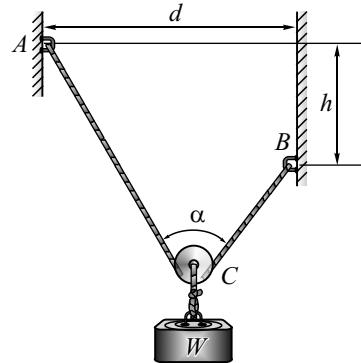

Fig. 3.E7
8. A system of connected flexible cables shown in Fig. 3.E8 is supporting two vertical forces 200 N and 250 N at points B and D . Determine the forces in various segments of the cable.